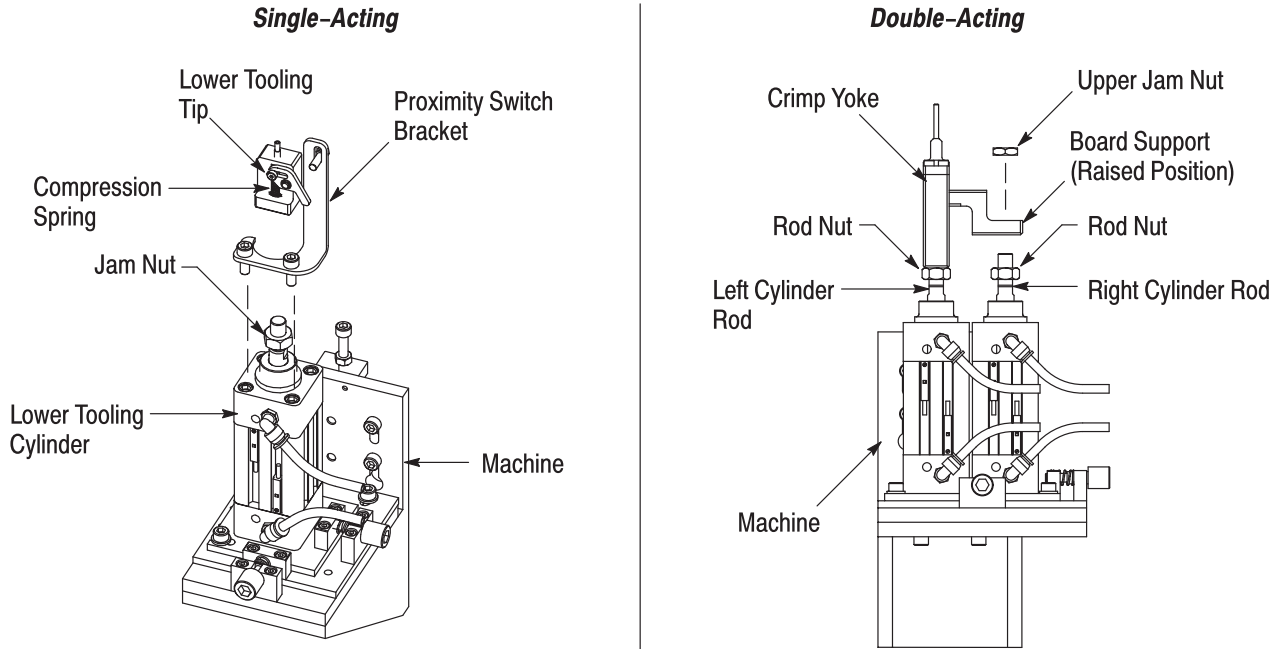

Figure 7
### 3.3. Installing Lower Tooling Tip onto Machine (See Figure 7)
- Align the lower tooling tip with the proximity switch bracket as shown in Figure 7, then tighten the jam nut onto the cylinder shaft to lock the lower tooling tip into position.
- Using the hardware, attach the proximity switch bracket to the lower tooling cylinder as shown in Figure 7.
3. Remove the hardware, then remove the proximity switch bracket from the lower tooling cylinder (refer to Figure 7).